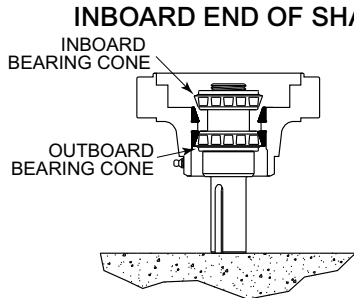

Figure 6.3.5.4 Placing Inboard Bearing Cone onto Shaft
*Note: DO NOT push on bearing rollers or bearing cage. Reference **Figure 6.3.5.2**.*